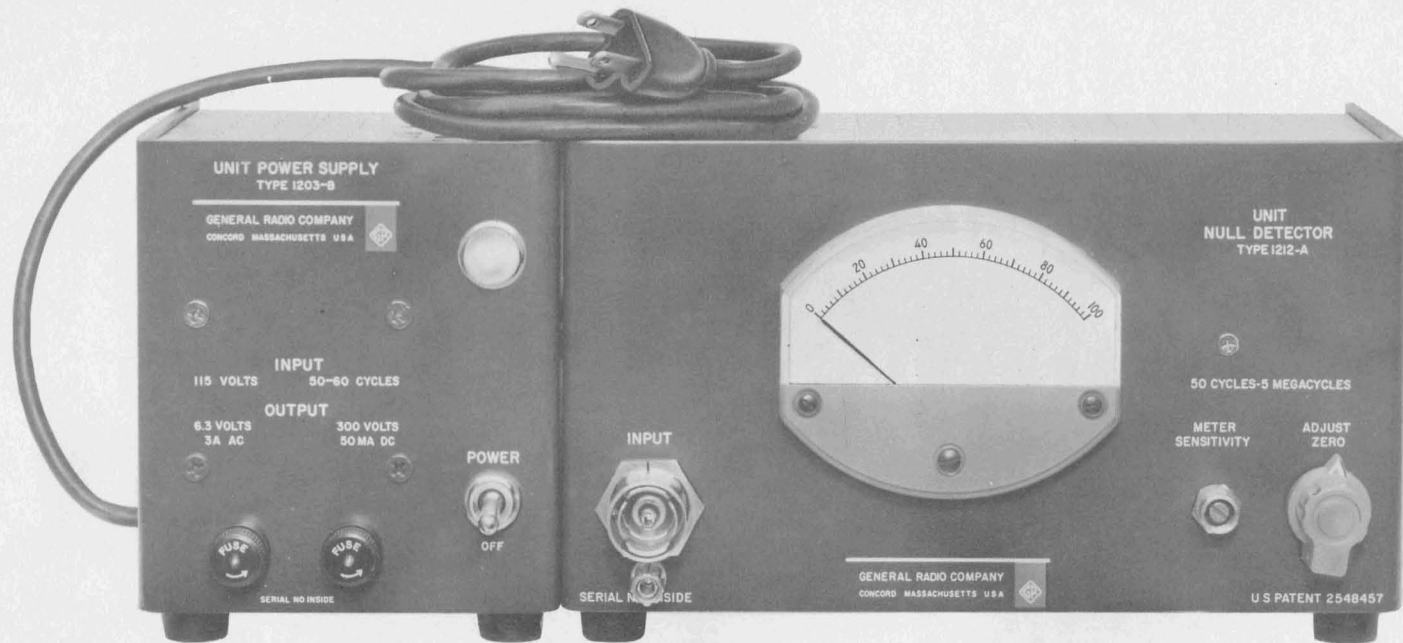

Figure 1. Type 1212-A Unit Null Detector with Type 1203-B Unit Power Supply.
**1.1 PURPOSE.** The Type 1212-A Unit Null Detector (Figure 1) is a logarithmic amplifier used primarily as a balance indicator for ac bridge measurements from 50 cps to 5 megacycles. With suitable input filters, the Unit Null Detector can be used with the Type 716-C Capacitance Bridge, Type 1661-A Vacuum-Tube Bridge, Type 916-AL R-F Bridge, Type 716-CS1 Capacitance Bridge, and up to 5 Mc with the Type 1606-A R-F Bridge. Frequency coverage can be extended to 60 Mc and sensitivity substantially improved by the use of the Type 1212-P3 RF Mixer ahead of the null detector. In addition, the mixer permits use of the Type 1212-A with the Type 1602-B Admittance Meter and Type 1607-A Transfer Function and Imittance Bridge.